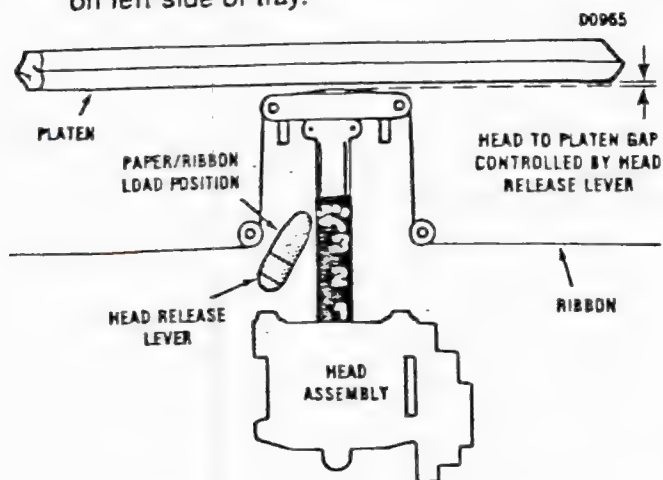

Figure 2-5 Head Release Lever Detail
6. Retract head to the paper/ribbon load position by rotating head release lever fully counterclockwise. See Figure 2-5 for lever detail.
13. Check ribbon position, remove slack if necessary, move head-release lever to print position, and install top cover. Print position numbers on print head assembly (Figure 2-5) indicate basic setting for number of plies of paper. Note that head-release lever setting (1, 2 or 3) may vary depending upon type of paper being used.
2. Retract the print head by rotating head release lever fully counter-clockwise. See Figure 2-5 for lever detail.